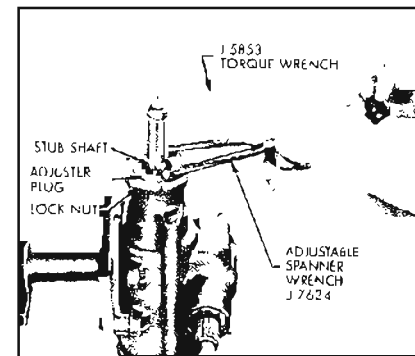

Figure 8-33—Adjusting Thrust Bearing Preload
times to measure valve drag and record highest reading. See Figure 8-33. Then tighten adjuster plug until thrust bearing preload is 1 to 3 inch pounds in excess of drag measured with adjuster plug backed out. Total of thrust bearing preload and valve drag should not exceed 11 inch pounds.
3. Adjust the thrust bearing preload. Attach Torque Wrench J-5853 with a 3/4 inch socket to the stub shaft. Turn stub shaft to approximately 1/2 turn from either extreme. Slowly rotate wrench in an arc approximately 60° (1/6 turn) in both directions several times to measure valve drag. See Figure 8-33. Then tighten adjuster plug until thrust bearing preload is 1 to 3 inch pounds in excess of valve drag measured with adjuster plug backed out. Total of thrust bearing preload and drag should not exceed 11 inch pounds.